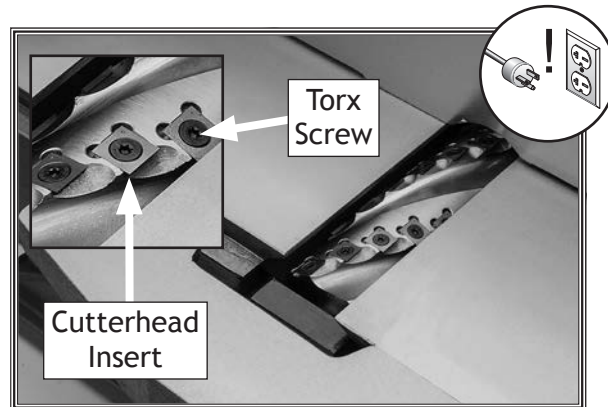

Figure 48. Example of cutterhead inserts and Torx screws.
6. Carefully clean away all sawdust or debris from top of insert, Torx screw, and surrounding area (see **Figure 48**).